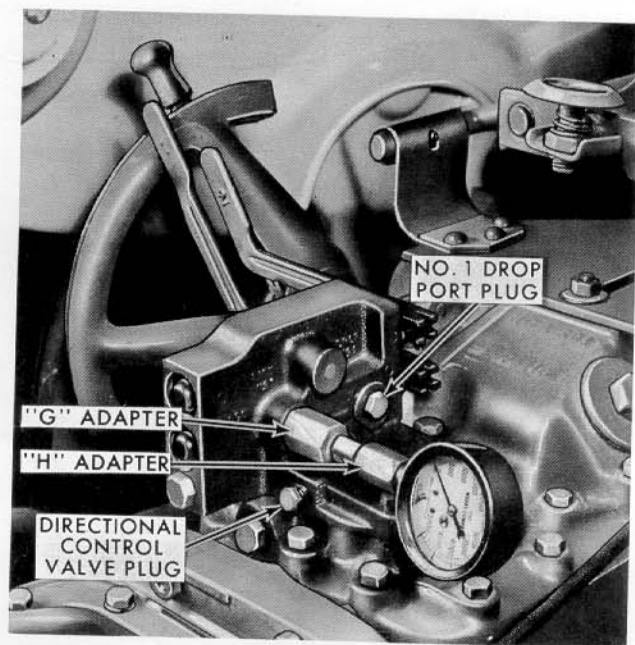

Figure 12
1. Place a plug in the No. 1 "drop" port, located on the left rear of the control valve, Figure 12.
3. Connect the control valve "G" adapter to the "H" pressure gauge adapter and thread the entire assembly into the No. 1 "lift" port, Figure 12. Tighten all connections.